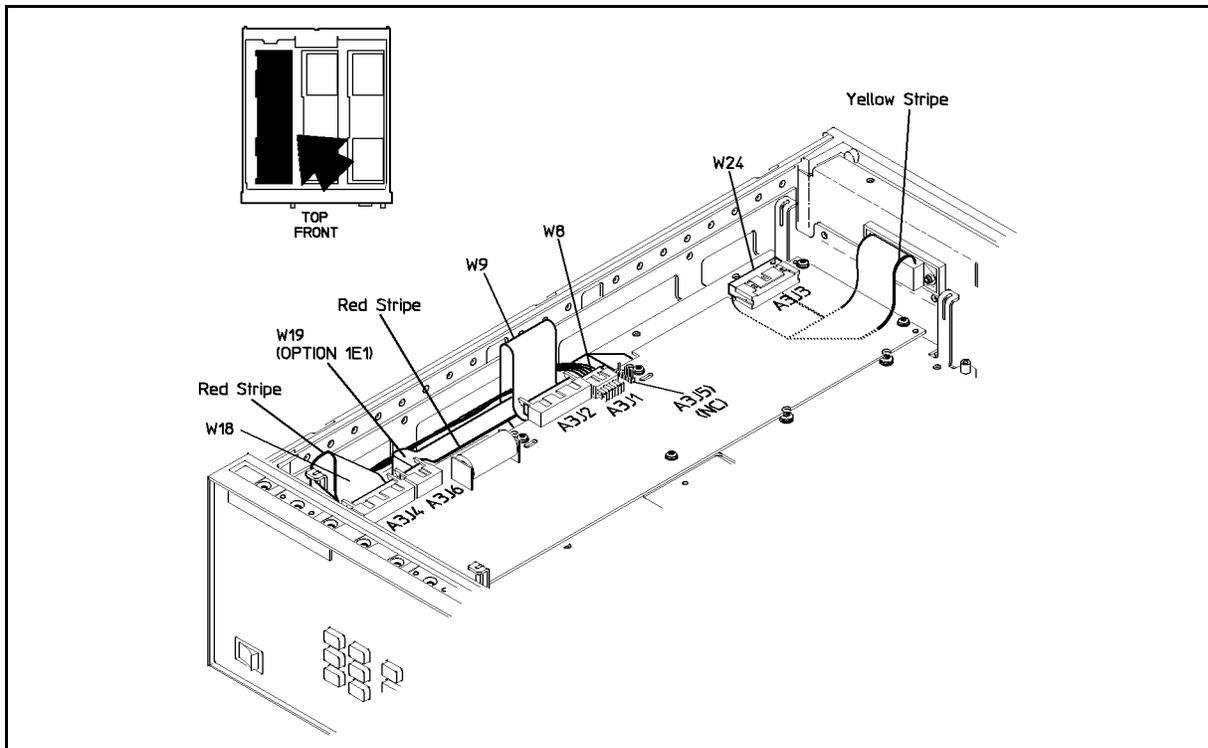

Figure 5-14. Microprocessor Board Assembly Cable Location
3. In the introduction to this chapter, refer to the procedure “Multi-wire Cables” and Figure 5-14. Then, disconnect the following cables:
- Be sure to route the HP-IB cable as shown in Figure 5-14.